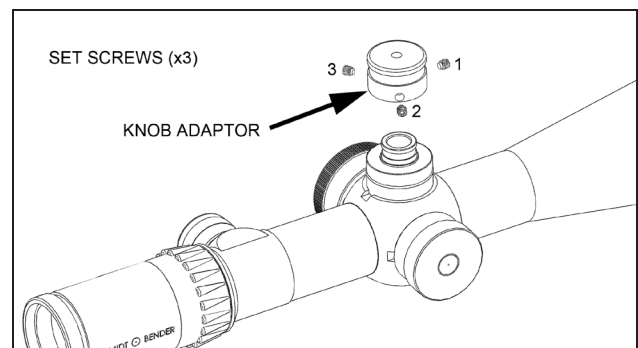

Figure 2.
2. Place the knob adaptor over the elevation post. Apply slight downward pressure to ensure that all set screws are seated below the outside diameter of the knob adaptor and tighten evenly to 12 in/lbs. Use Loctite® if desired. Figure 2.